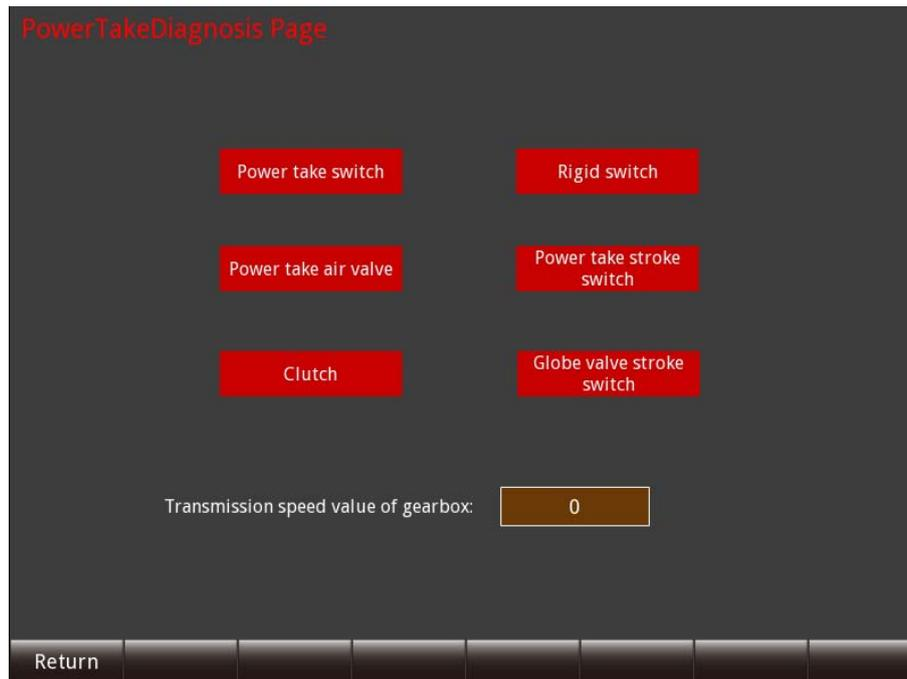

Figure 3-52 Power takeoff diagnosis interface
- (7) When the power takeoff fails, exit the PTO switch. Switch off the electricity and stop the engine. Do the items follow after 3- 5 minutes:
- (8) Before engaging the PTO and switching on the ignition starter switch, make sure that the shutoff gate valve of the superstructure hydraulic oil tank is opened.
- (9) Under the one-button automatic power takeoff mode, it takes 32 sec. to take the power off. During this period, the small display field at the top right corner of the LCD will show "The PTO operation is going on. Do not carry out the other operations." The display field at the top right corner of the LCD will show "Taking the power off is successful." after the power has been taken off successfully. Do not carry out any operations during the process of taking the power off. After that, the PTO control light of the LCD illuminates. Subsequently, carry out the superstructure operation.
- (10) Do not switch off the ignition starter switch directly when the PTO switch is not switched off.
- (11) After activating the PTO switch to take the power off, you cannot disconnect the PTO switch until the PTO is completely engaged. Do not disconnect the PTO switch directly when the power takeoff operation is not completely successful.
- (12) If the above-mentioned situations (items (10) and (11)) occur, disconnect the PTO switch and continually press the neutral key of the transmission for several times. And then, the transmission goes back to Neutral. Electrify the vehicle and take the power off after cutting off the power supply of the ignition starter switch for 3 - 5 min.
- (13) Click the icons "Power Take Diagnosis" in the main interface. And enter into the interface "Power Take Diagnosis". Refer to Figure 3-52.